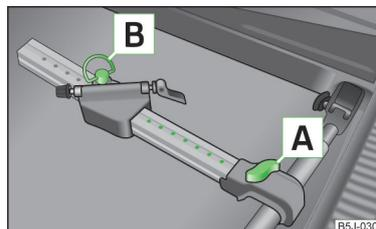

Fig. 74
- Remove bolt [A] » Fig. 74 a little and push the frame side rail (aluminium part) towards the cross member until the socket latches.
- › Undo bolt [A] » Fig. 74 on page 75 and push the bicycle carrier to the left together with the mounted bicycle to prevent a collision between the handlebars and the side window of the luggage compartment.